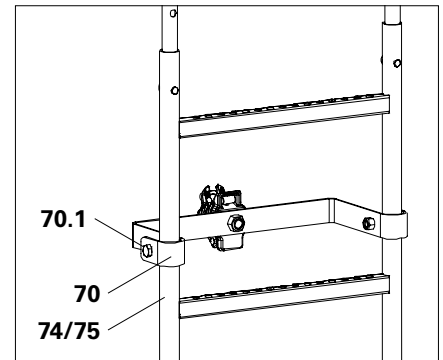

Fig. A9.08a
1. Pre-assemble the Vertical Ladder UAV (**74/75**) with the Ladder Connector UAV (**70**). (Fig. A9.08a)